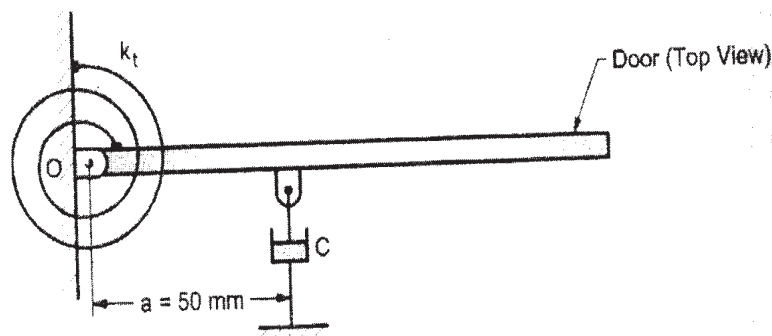

Fig.2
- Q4) a)** A door along with door closing system shown in fig. 2 has a moment of inertia of 25 kg-m² about the hinge axis. If the stiffness of torsional spring is 20 N-m/ rad, find the most suitable value of the damping coefficient. [8]